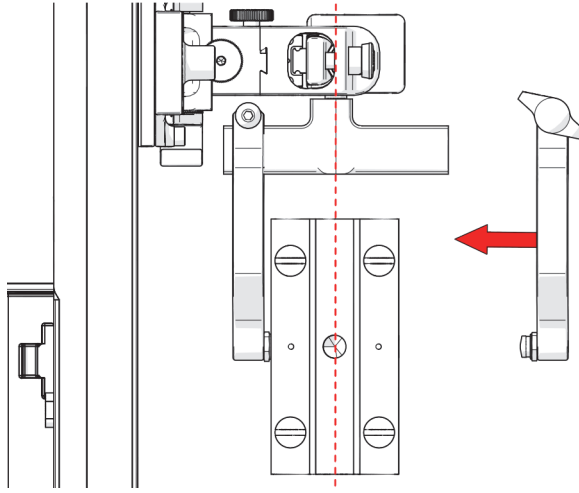

Figure 2-79 Remove outer arm
5. Align the middle of the wedge with the center of the yoke (see Figure 2-79 on page 109).